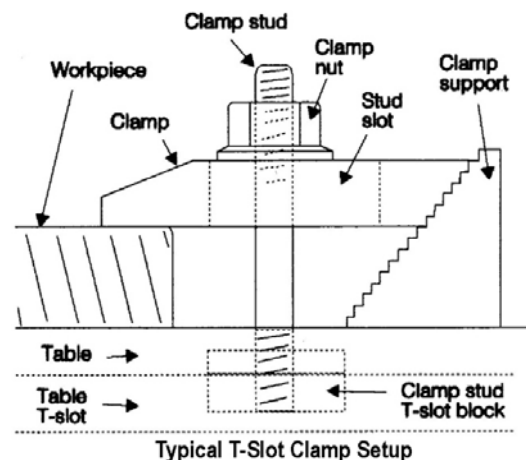

Figure 6: Work piece clamping
2. Clamp work piece using T-slot clamps, studs, and step blocks as required. See Figure 6.